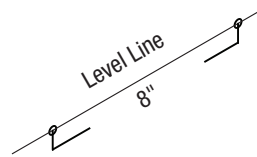

Figure 2
STEP 2: Draw a line on the wall, using the level, in order to determine where the screw holes will be located. The screws should be installed approximately 8" apart, as shown in **Figure 2**.